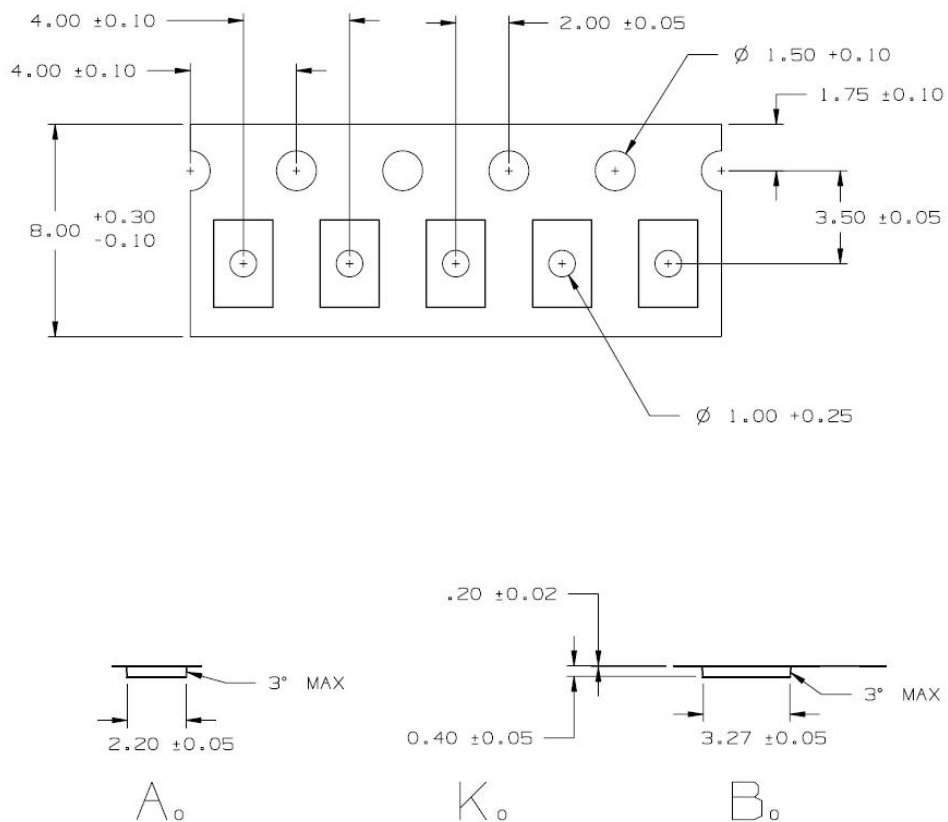

Figure 12. EA2M-SUD Tape & Reel
12. EA2M-SUD8A1G: Die in Tape & Reel with die thickness = 8 mil ± 0.5 mil. These chips are contained in a Tape and Reel. The mechanical specifications of the trays are shown in Figure 12. Dimensions are in mm.